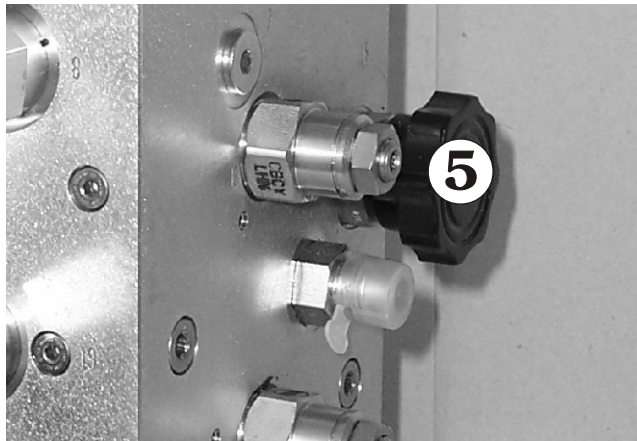
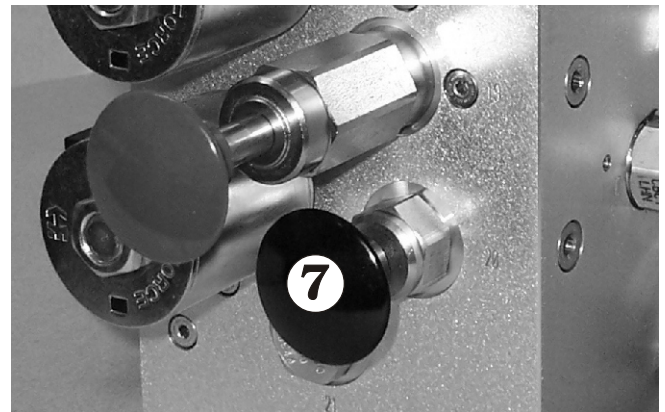

Figure 9.9
Figure 9.11
3. Inside the hydraulic compartment, open the free-wheeling valve ⑤ by turning counterclockwise until knob stops. (see Figure 9.9).
5. Once the unit has been safely pushed / towed pull the re-set knob ⑦ to re-apply the brakes (see Figure 9.11) and close the free-wheel valve ⑤ (see Figure 9.9).